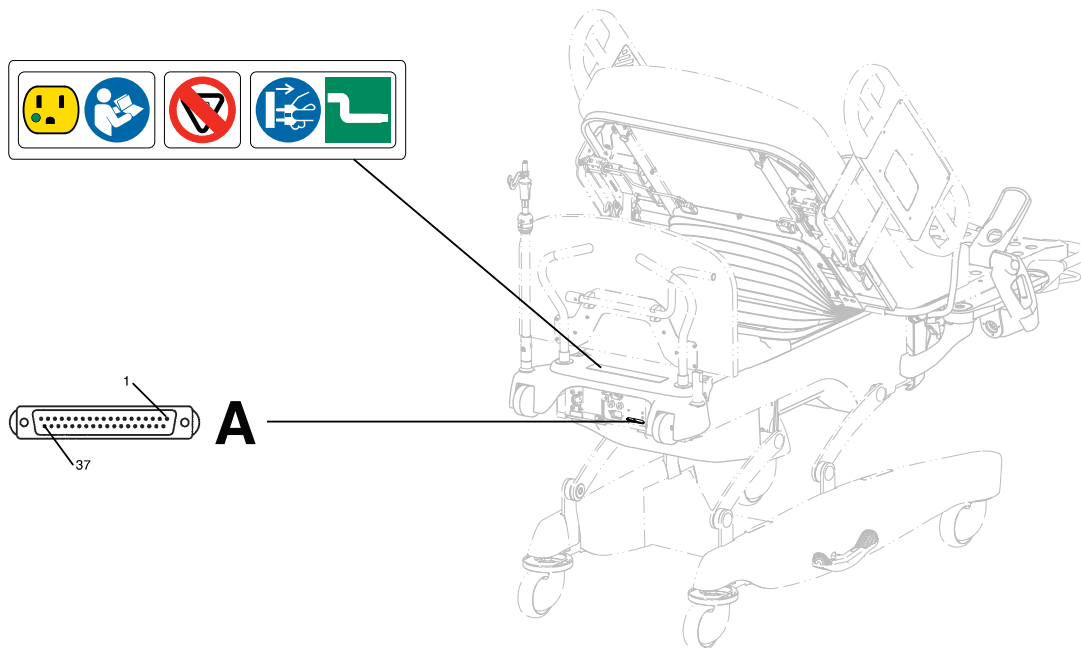

Figure 1-4: Nurse call and 37-Pin Connector
1. Plug the interface cable into the 37-pin connector in the litter frame at the head end of the product (A) (Figure 1-4 on page 1-13) and into the applicable connection (patient station, head wall, or docker station).
Note: Only connect the 37-pin connector to the Head Wall Output Configuration (A) (Figure 1-4 on page 1-13) or product Communications Tester (sold separately).